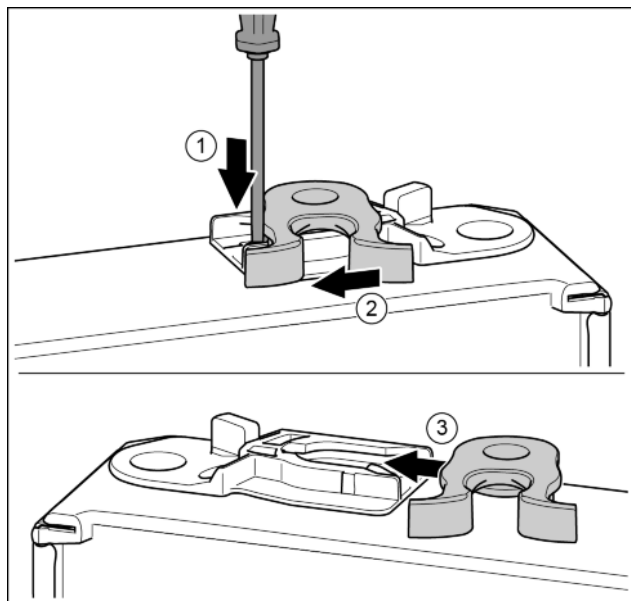

Fig. 13
- Push the tab downwards with a slotted screwdriver. Fig. 13 (1)
- Pull the door latch out of the guide. Fig. 13 (2)
- Push the door latch into the guide on the other side. Fig. 13 (3)